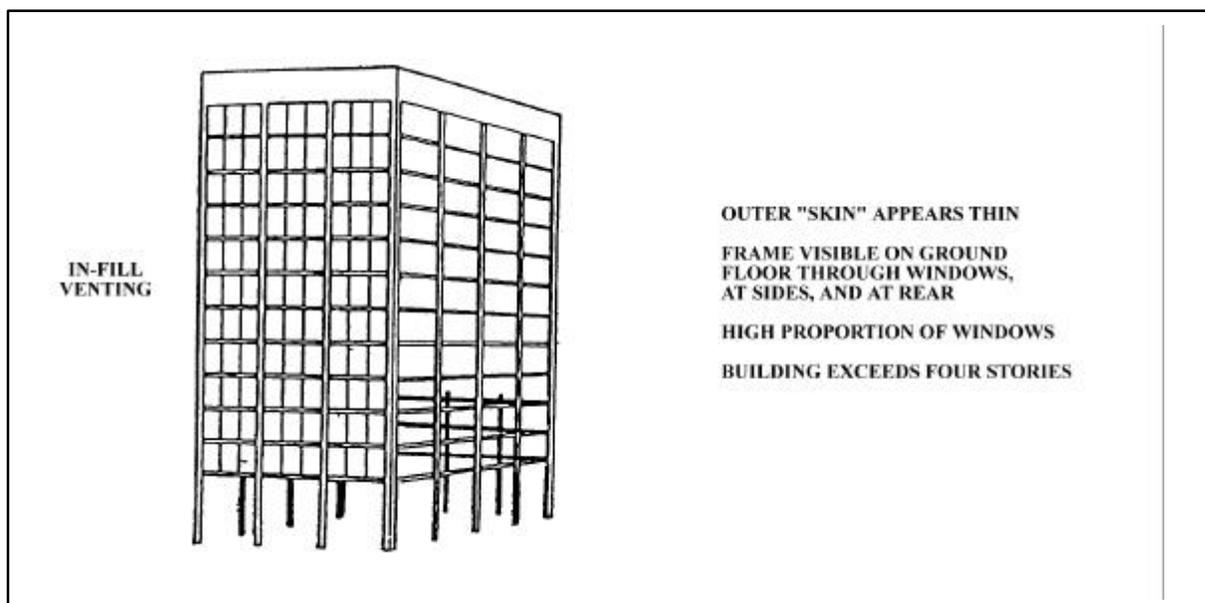
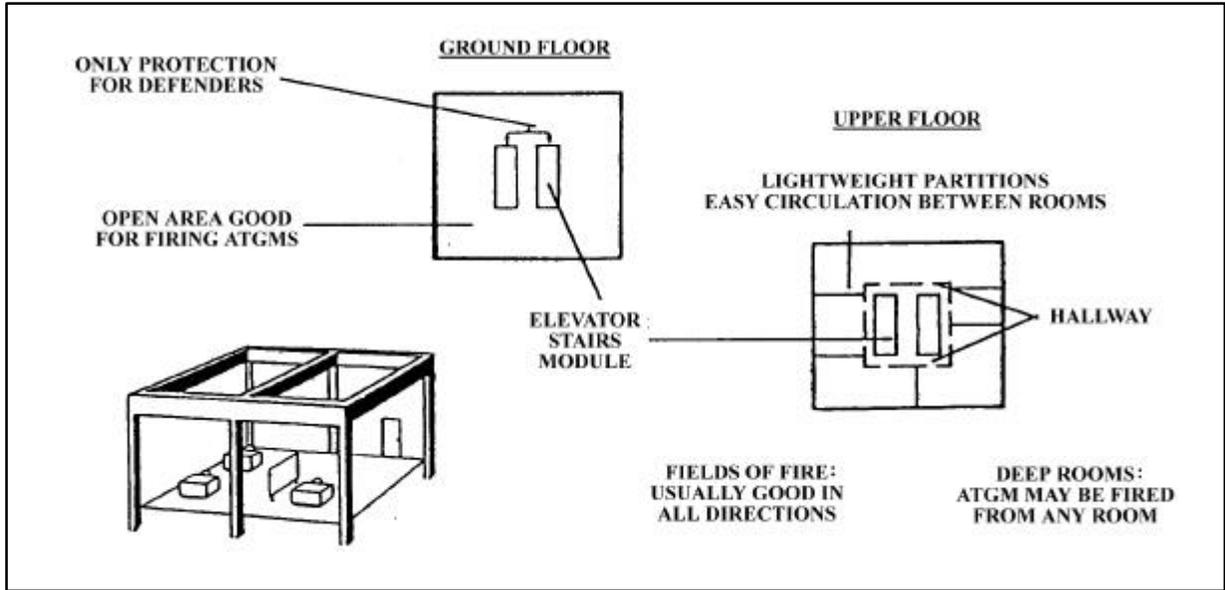

Figure I-14. Light-Clad Framed Building
Figure I-15. Light-Clad Framed Room
b. Light-clad buildings are more modern and may be constructed mostly of glass (Figure I-14). Most framed buildings built since World War II are light-clad buildings. They are found in both core and outlying high-rise regions. Their walls consist of a thin layer of brick, lightweight concrete, or glass. Such materials provide minimal protection against any weapon. However, the floors of the buildings are much heavier and provide moderate overhead cover. The rooms in light-clad framed buildings are much bigger than those in heavy-clad buildings. This feature, along with the fact that the buildings usually stand detached from other buildings, favors the employment of ATGMs. The interior partitions are thin, light, and easy to breach (Figure I-15).